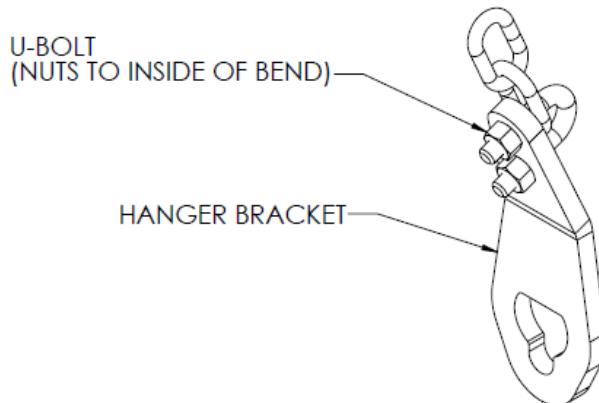

Figure 3
1. Locate both hanger brackets included in the kit (item 2, figure 1). Install U-bolt and chain from your Weight Distribution Kit on each hanger bracket as shown in figure 3 (if installing Dual Cam HP on an existing weight distribution kit, the U-bolts and chains will need to be removed from each spring bar before they can be installed on the hanger brackets).
The U-bolts must be installed in the ends of the chains (last link) as shown in figure 3.